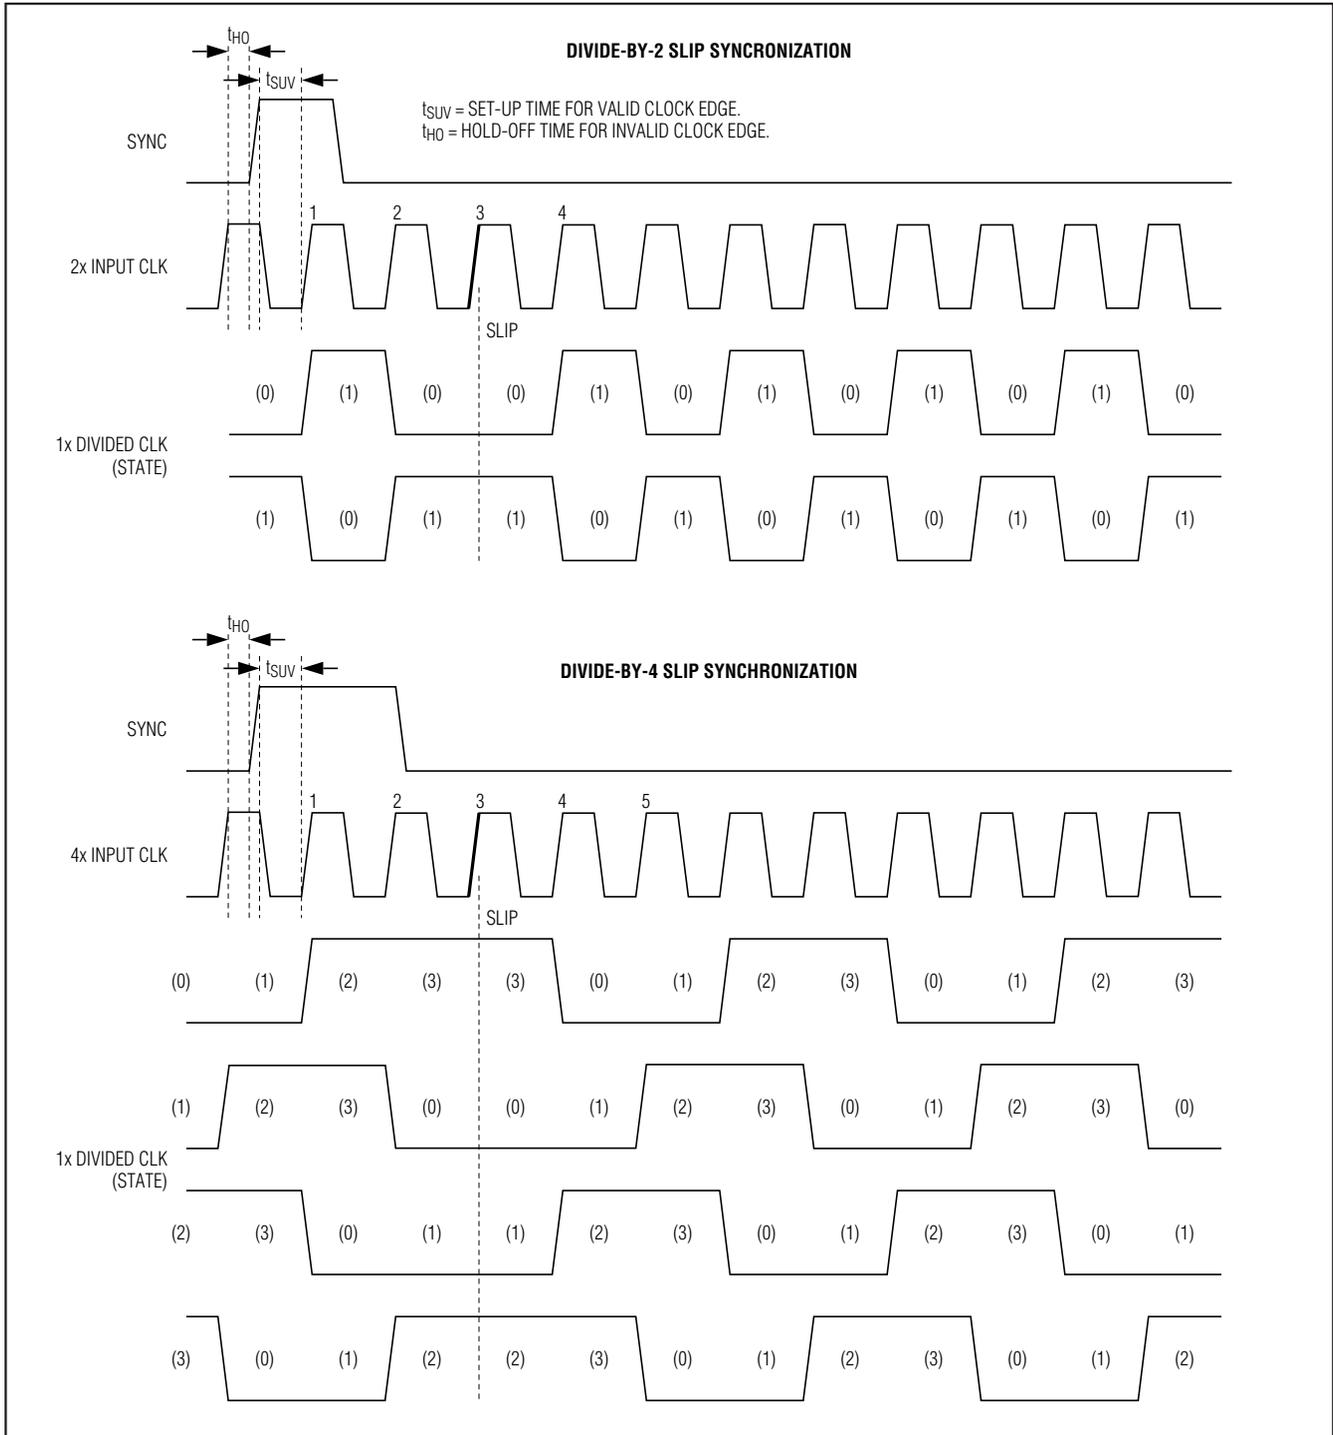

Figure 11. Slip Synchronization Mode
0 = Slip mode (Figure 11) (default)
**Slip Synchronization Mode,  $SYNC\_MODE = 0$  (default):** On the third rising edge of the input clock ( $CLK$ ) after the rising edge of  $SYNC$  (provided set-up and hold times are met), the divided output is forced to skip a state transition (Figure 11).